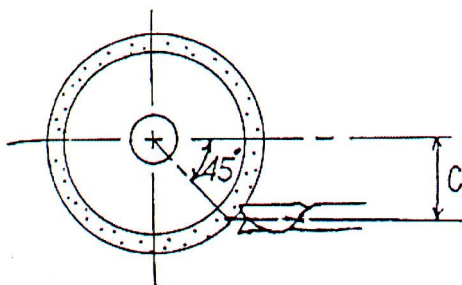

Fig.16
(9) After grinding the 1st Relief Angle then do the grinding for 2nd Relief Angle, The lift level- C needed is shown as Figure 16.